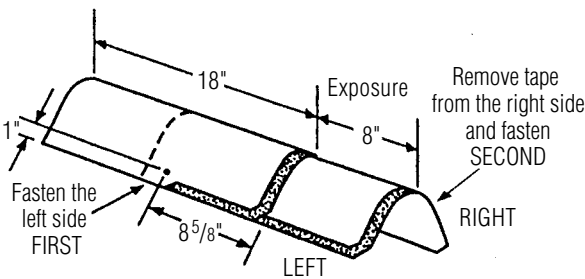

Figure 19-19: Installation of Shingle Ridge shingles on hips and ridges.
7. Fasten each cap with two fasteners (Figure 19-19). The fasteners must be 1 3/4" long, or longer, so they penetrate either 3/4" into the deck or completely through the deck, exposing at least 1/8" of the tip of the nail. Expose 8" of the Accessory along the ridge or hip line and cover all fasteners.